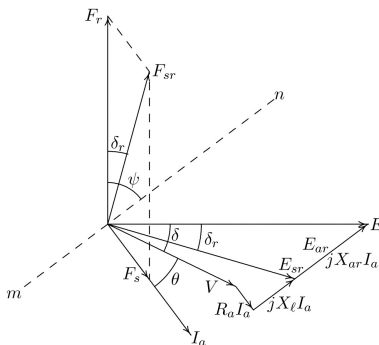

Figure 2: Combined phasor / vector for one phase of a cylindrical rotor generator
- Note that Figure 2 is a **hybrid** combining spatial and temporal vectors.